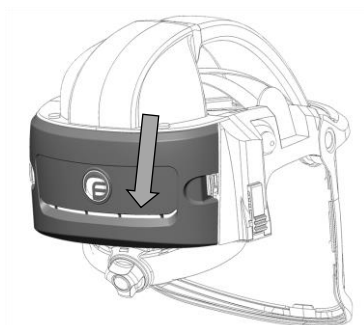

*Figure 8*
1. Ensure that the HEPA filter has been installed correctly as shown in Figure 8 on page 17.